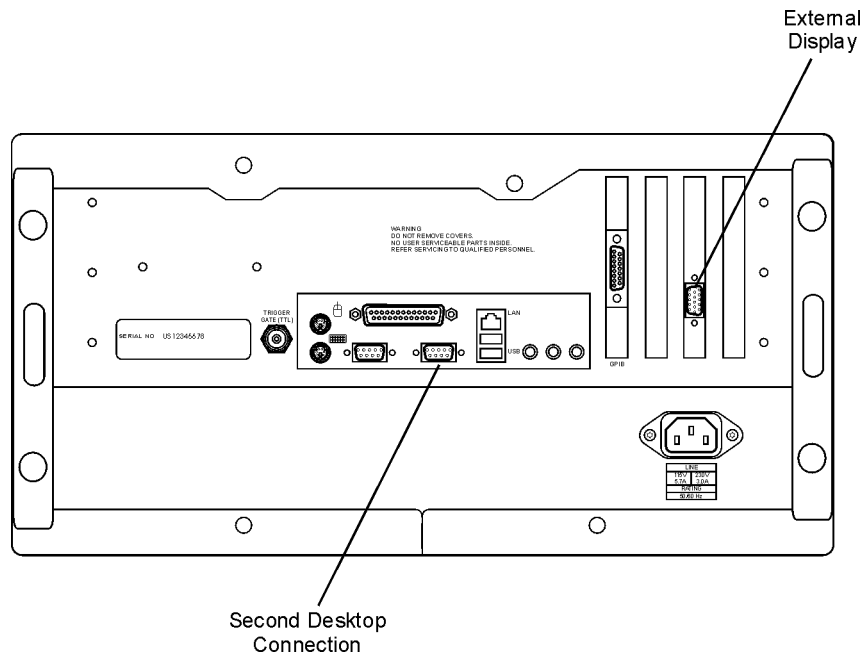

Figure 1-26. External Monitor Connector
- 1 Connect the display cable to the rear-panel VGA connector. This connector is labeled External Display on Figure 1-26.
The rear-panel VGA connector labeled Second Desktop Connection on Figure 1-26 is provided for use of the Windows second desktop feature. Refer to Windows XP Help for information on using a second desktop.